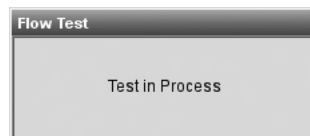

Fig. 8-24 Flow Test in Process
- Wait for test results (Fig. 8-24).